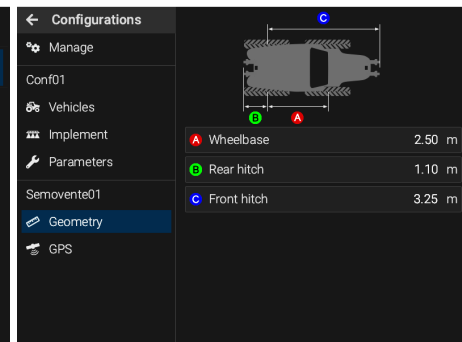

Fig. 29
- Select each item to set the requested data (example: **Semovente01** > **Geometry** in Fig. 29).